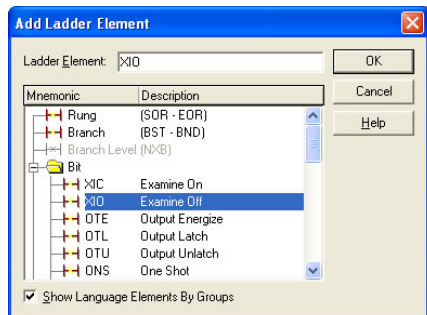

Figure 86: Adding an XIO Element
- c) Select the “XIO” element in the Bit folder. Refer to Figure 86.